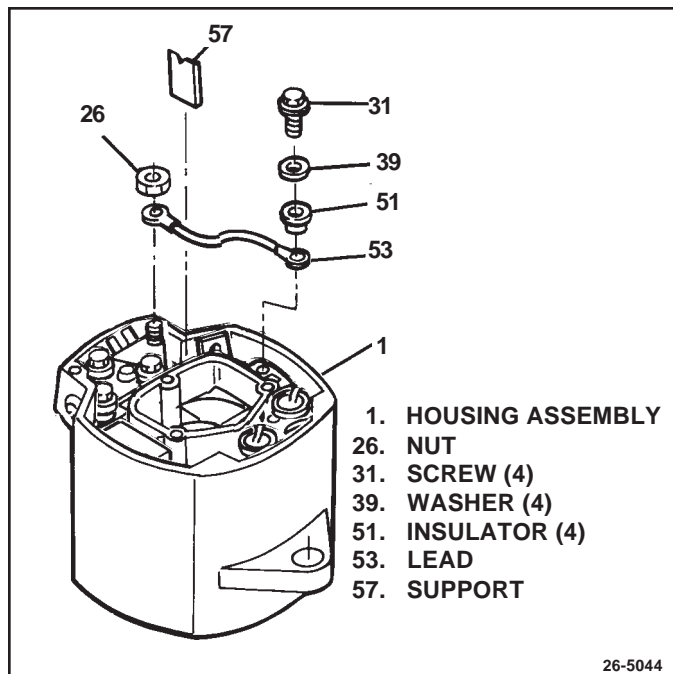

Figure 43. Installing Regulator Lead
26. Insert regulator lead support (57) into slots in housing (1). (See Fig. 43) Place one end of lead to diode heat sink lead (sense lead) over mounting hole in heat sink. Add insulator (51), flat washer (39), and heat sink attachment screw/washer assembly (31). Clip on lead must be under the insulator, next to the heat sink. Finger tighten attachment screw. Place other end of lead over stud on regulator, routing lead through slot in lead support. Install regulator stud nut (26).